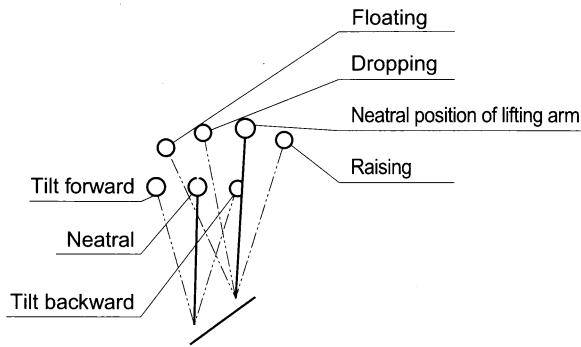

Figure1-14 Positions of control levers
1.5.4 Operation Of Working Apparatus (Figure 1-14 & 1-15)